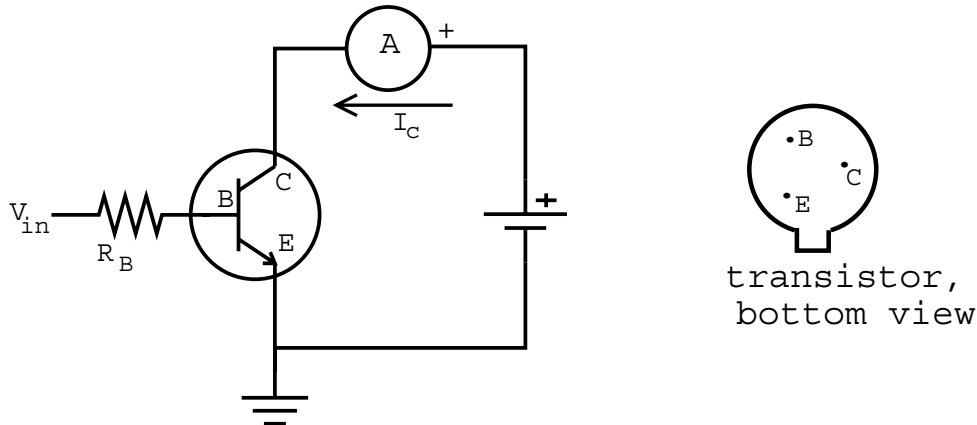

Figure 16: Circuit for the study of an NPN transistor and a bottom view of a transistor
In this laboratory, you will set up a circuit like that shown in Figure 16, which shows the common-emitter configuration, to examine some of the common emitter characteristics of an NPN transistor. The configuration derives its name from the fact that the emitter is tied to the common, or “ground”, in the circuit.
1. Set up the circuit shown in Fig.16. Choose a power supply voltage of about 5 V and a base resistance, R_B , of roughly 3 k Ω .